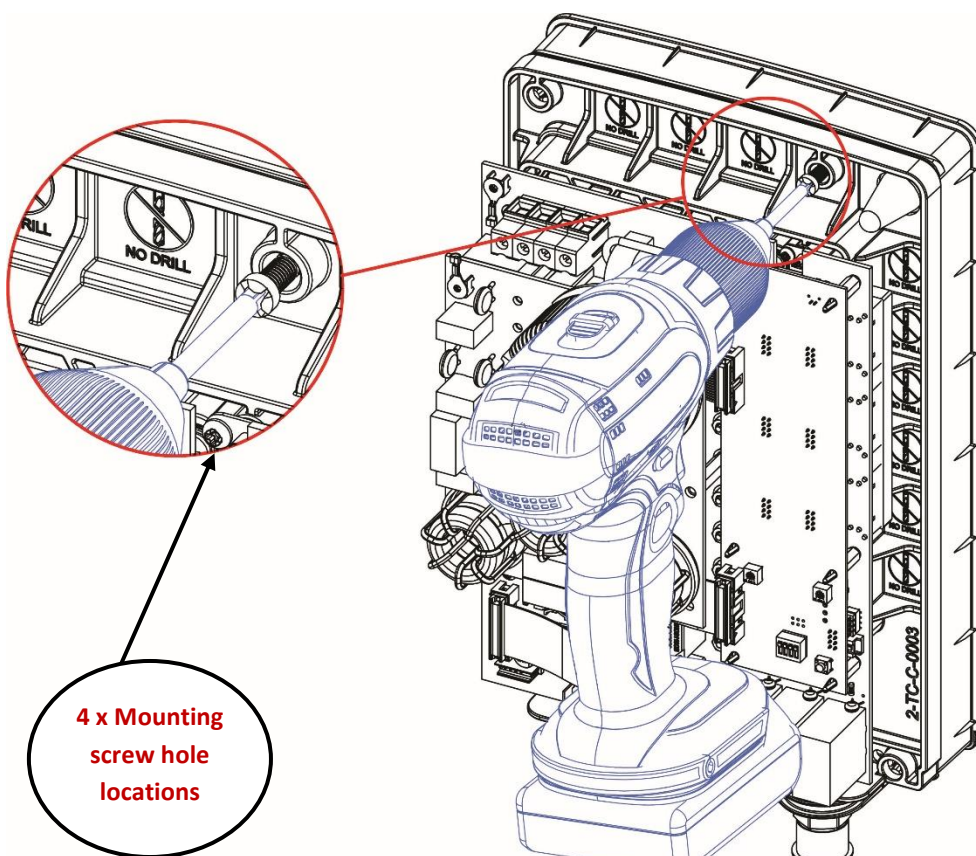

Figure 3 - Mounting Screw Location
The unit should be mounted onto a solid internal wall, or in an internal cupboard or space, preferably in the vertical position using the 4 x Mounting Screws (12) placed within the Mounting Screw Hole Locations as shown in Figure 3. Refer back page for screw-hole template and page (19) for CFEWH dimensions.